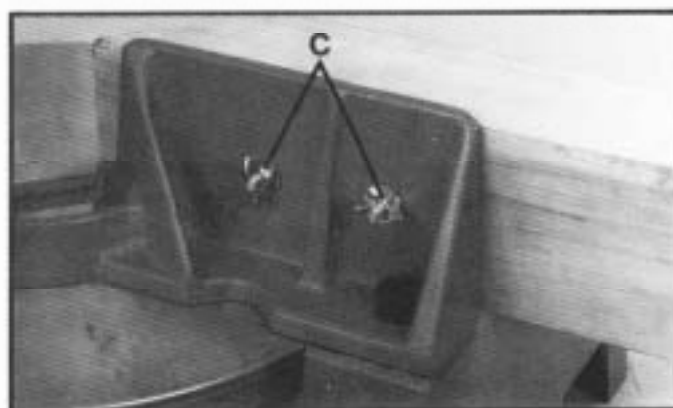

Fig. 59
Then fasten the filler blocks to the fence using wood screws (C) through the two holes provided on each fence half, as shown in Fig. 59. This enables you to easily remove the filler blocks when not in use and quickly reassemble them to the fence when needed.